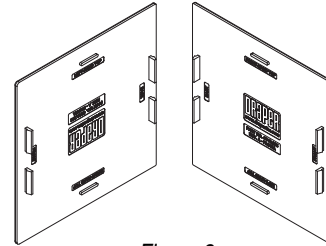

Figure 3
- ① For endcaps, snap end covers into place (see Fig. 3).